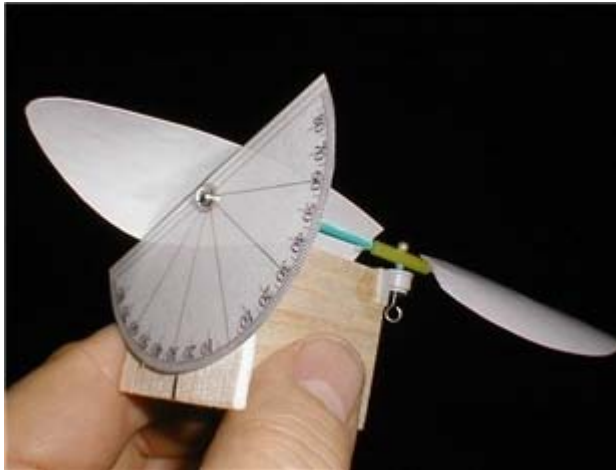

Figure 2. Propeller pitch gauge from Freedom Flight Models.
- twist angle (pitch), Freedom Flight sells a handy jig for measuring the twist angle of a propeller (see Figure 2, below), or you could make one of your own.